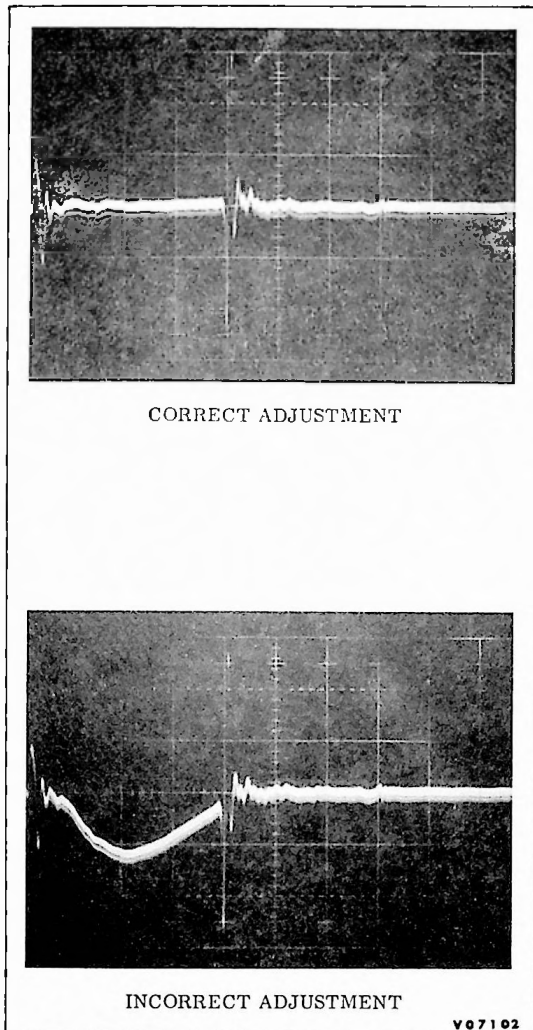

Figure 5.2-19. Amtec Error Crosstalk Display
- e. Adjust resistor R1 on board 6 for minimum crosstalk. Figure 5.2-19 shows a display of the correct and incorrect signals.